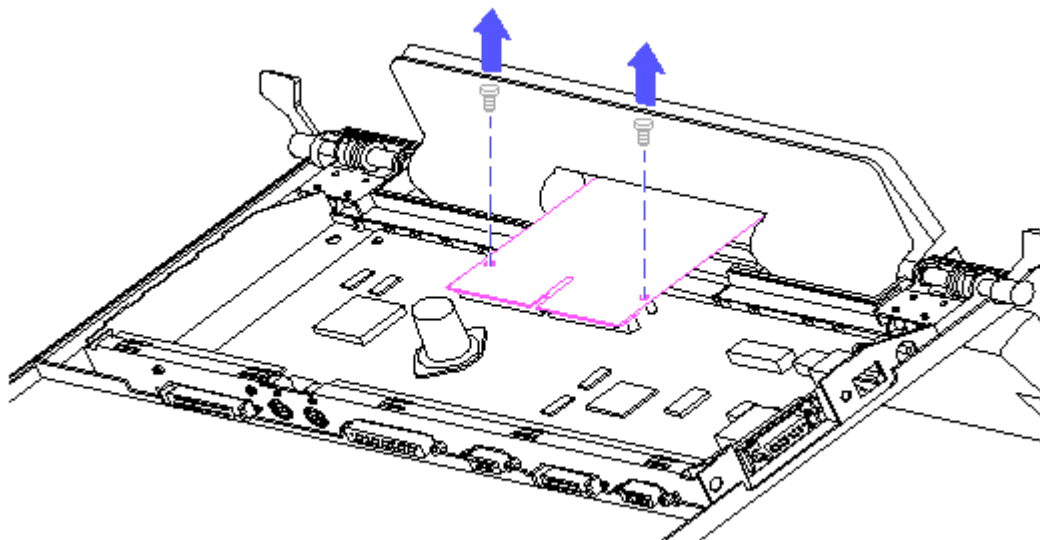

Figure 4-8. Disconnecting the Flex Cable from the Interface Board
5. Remove the two screws securing the flex cable to the interface board and disconnect the flex cable from the interface board (Figure 4-8).